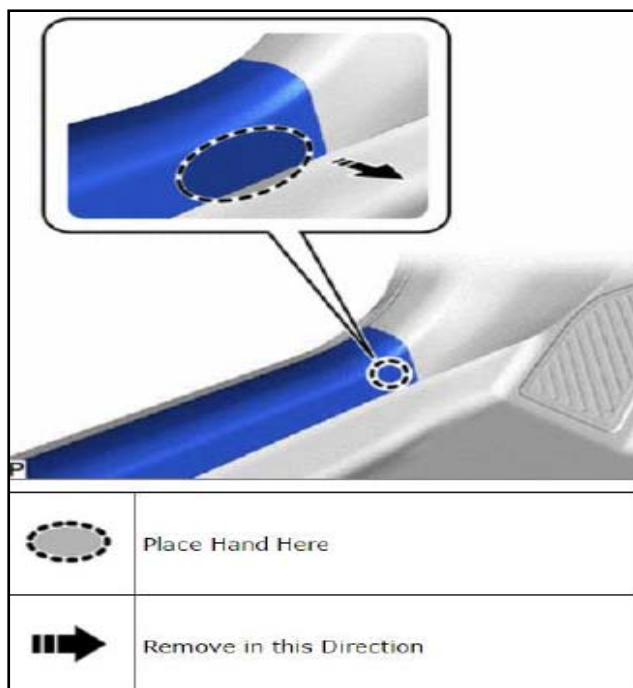

Figure 5
- a. Disengage the claw as shown in Figure 5.